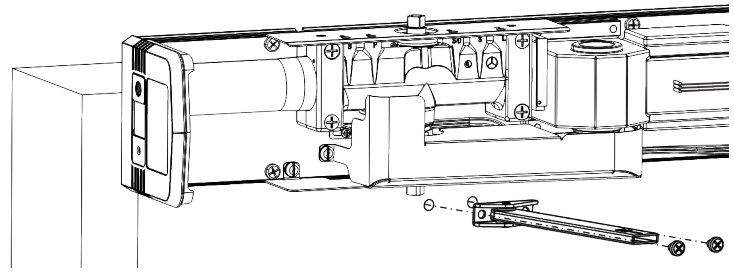

Figure 18
- Using previously prepared holes in door, install two (2) 1/4-20 x 1-5/8" screws through shoe and into sex bolts. (Figure 18)